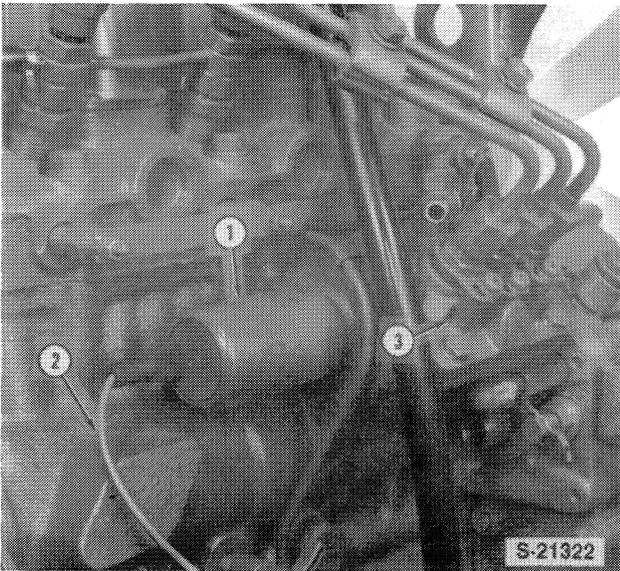

FIGURE 1-12
- 13. Disconnect the wire, 2, from the injection pump solenoid stop control, Figure 1-12.